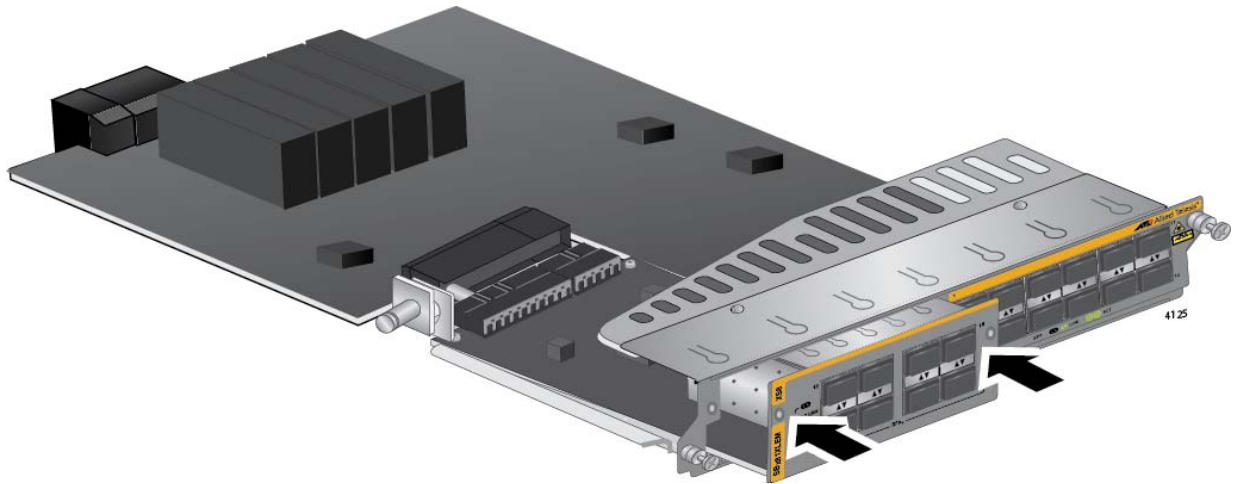

Figure 82. Seating the Expansion Module on the Connector in the AT-SBx81XLEM Line Card
9. When the expansion module makes contact with the connector inside the line card, gently press on both sides of the faceplate to seat the module on the connector. Refer to Figure 82 on page 145. The module is fully installed when its faceplate is flush against the faceplate of the AT-SBx81XLEM Line Card.